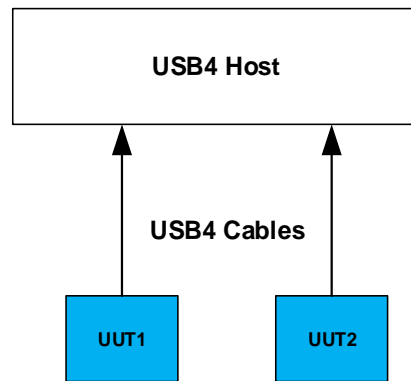

Figure 4-9: USB4 Host ↔ UUT (USB4 Hubs Under Test) Topology
4.7.3.1. Multiple UUT (USB4 Hubs Under Test, see Figure 4-9)